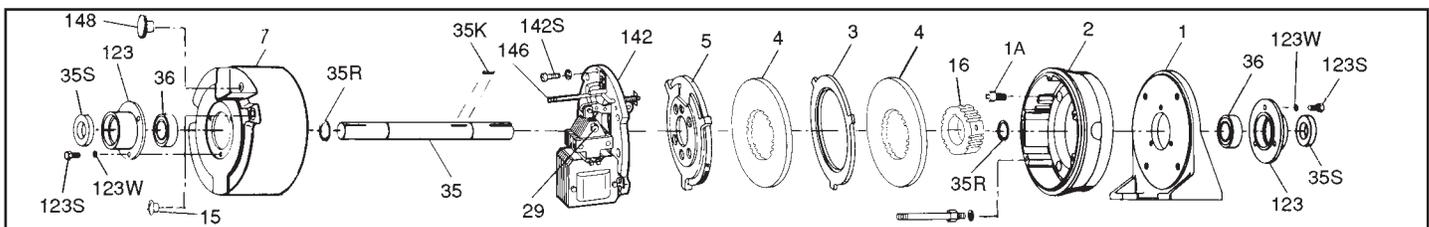
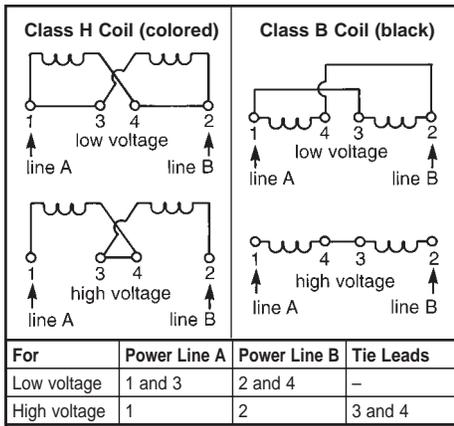

Figure 1A
Figure 4
II. Installation Procedure - 87,200 (See Figure 1A)
As shown in the exploded view, Figure 1A, the 87,200 Brake is very similar to the motor mounted 87,000 Series. It is, however, a self-supported, foot mounted unit, with an integral bearing supported through-shaft. Since disassembly is not required prior to mounting, installation is simplified.
1. Dual voltage coils may be factory pre-connected for high voltage with wire nuts. Checking coil connection is suggested. On the 87,200 only, coil lead wire termination is accessible at lead wire outlet of endplate (2). Four lead style are marked on leads for connection per Figure 4. Two unmarked leads mean preconnection made for high voltage. If reconnection of a dual voltage
coil is required (two unmarked leads) on the 87,200, housing (7) must first be removed per Section and Figure 1A. Reconnect coil for appropriate voltage as shown in Figure 4. Bring out line leads.
2. On single voltage coils, connect coil to any two leads on single or three-phase motors of the same voltage as the brake. Refer to brake nameplate and coil number for correct voltage and frequency. See Figure 4 for dual voltage coil connection and connect to any two leads of single or three-phase motor of the same voltage. The brake can also be wired to external switch contacts providing proper voltage other than that used to control the motor. Normally, the motor and brake contacts are interlocked.